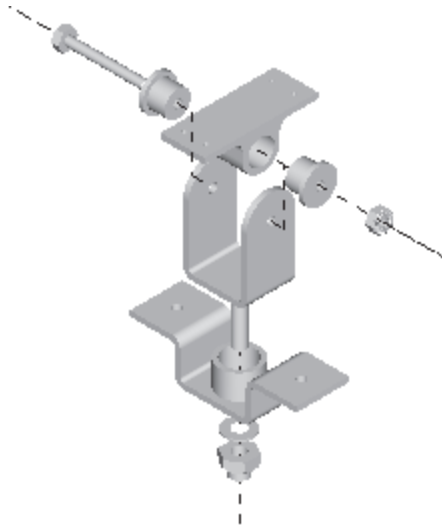

Figure 9-55 *Displaying the offset lines in the exploded state*
15. Similarly, select the axes of the other components to create the offset lines displaying the path and direction of the mating components as shown in Figure 9-55.